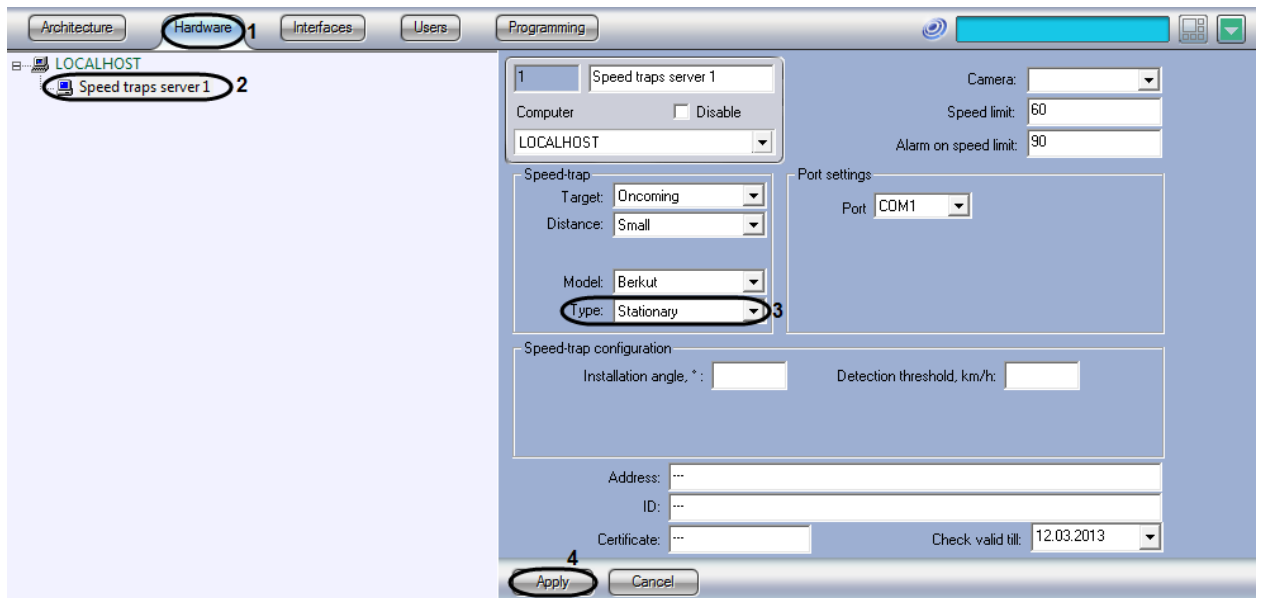

Fig. 7.3—6 Select the setting type of the Radar device
2. In the object tree on the left side of the Hardware tab, select the Speed-trap server object representing the Radar module to be set up. The settings panel of the selected object will open on the right side of the window (Fig. 7.3—6, 2).
3. Select the setting type of the Radar device from the Type list. Select the Stationary value if the Radar device is set stationary and select the Moving value if it is set on the moving vehicles (Fig. 7.3—6, 3).
4. Click Apply (Fig. 7.3—6, 4).